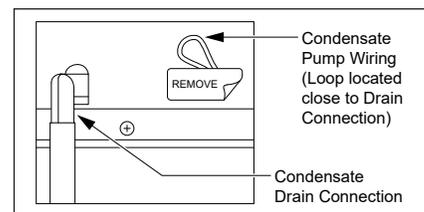
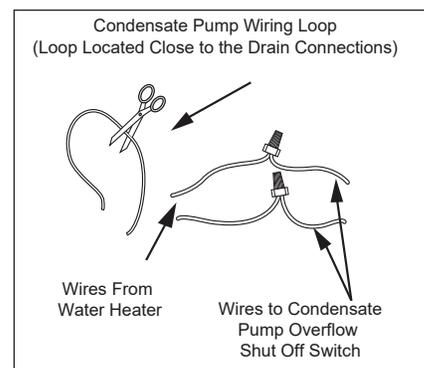

Figure 14 - Condensate Pump wiring.
Figure 15 - Wiring Loop for connection to Condensate Pump.
- 1 Locate the wiring loop next to the condensate drain connection and remove label (Figure 14). Cut the loop and strip insulation off the two ends (Figure 15).